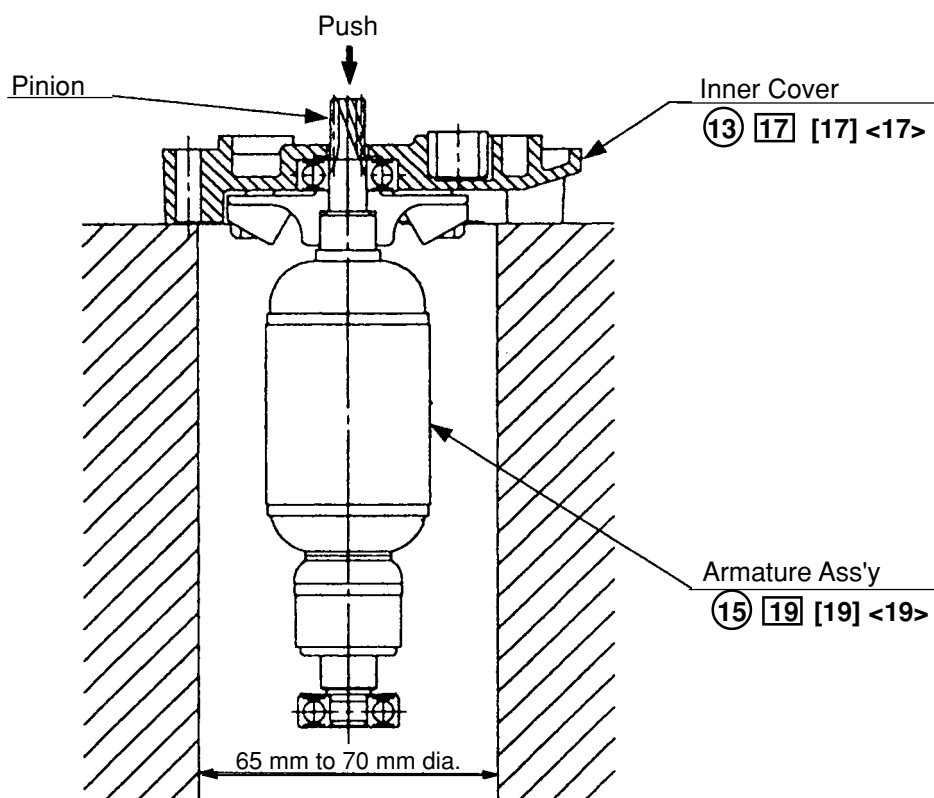

Fig. 21
(5) Removal of the armature ass'y from the inner cover
As illustrated in Fig. 21, support the Inner Cover (13) [17] [17] <17> with a tubular jig, and push down on the top of the pinion of the Armature Ass'y (15) [19] [19] <19>.